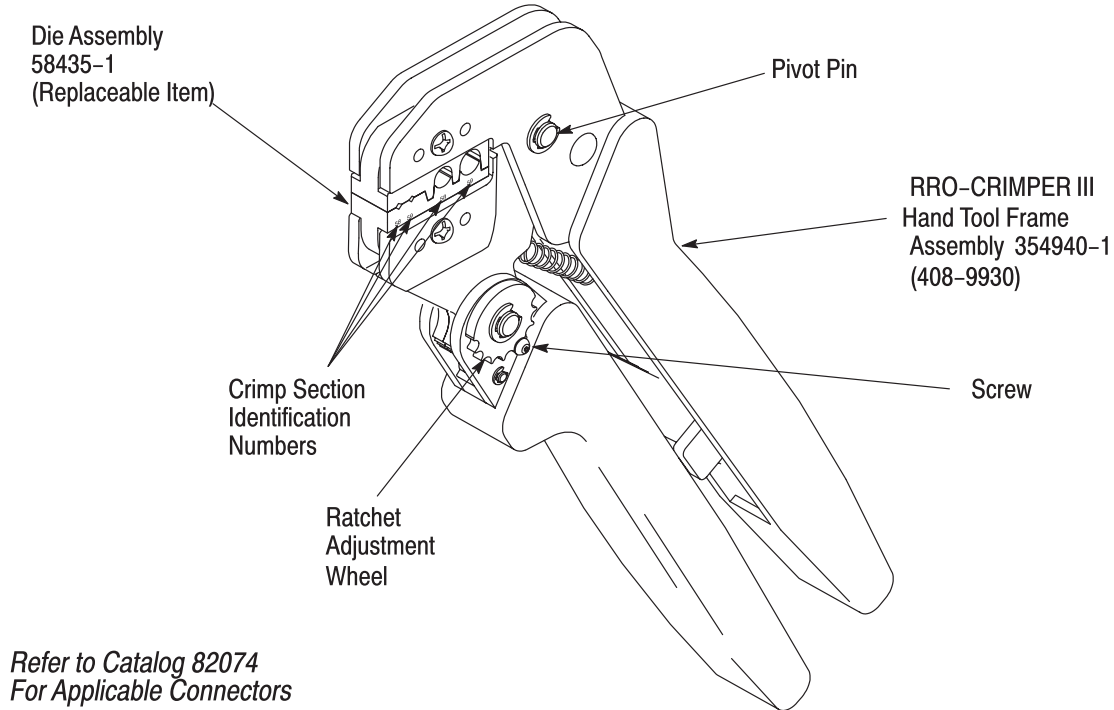

Figure 1
PRO-CRIMPER III Hand Crimping Tool 58433-1 (Figure 1) is designed to crimp 50-Ohm Commercial BNC and TNC plugs and jacks onto RG 58/U, RG 59/U, and RG 62/U cable.
**2. DESCRIPTION** (Figure 1)
Customer-replaceable parts are shown in Figure 1. Available separately, PRO-CRIMPER III Repair Kit 679221-1 includes a variety of pins, rings, screws, and springs. If the dies are damaged or worn excessively, they must be replaced. Order the repair kit and replaceable parts through your Tyco Electronics representative, or call 1-800-526-5142, or send a facsimile of your purchase order to 1-717-986-7605, or write to: